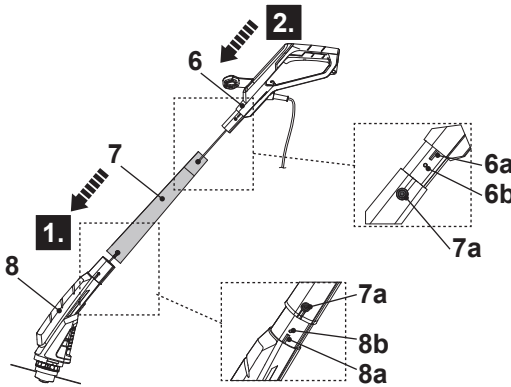

Fig. 1
1. Align and slide the sliding slot of the middle pole (7) onto the spigot (8a) of the lower pole (8). Fully insert the middle pole (7) and make sure that the screw holes (7a, 8b) are well aligned (Fig. 1, step 1).
2. Align and slide the spigot (6a) of the upper pole (6) onto the sliding slot of the middle pole (7). Fully insert the upper pole (6) and make sure that the screw holes (6b, 7a) are well aligned (Fig. 1, step 2).